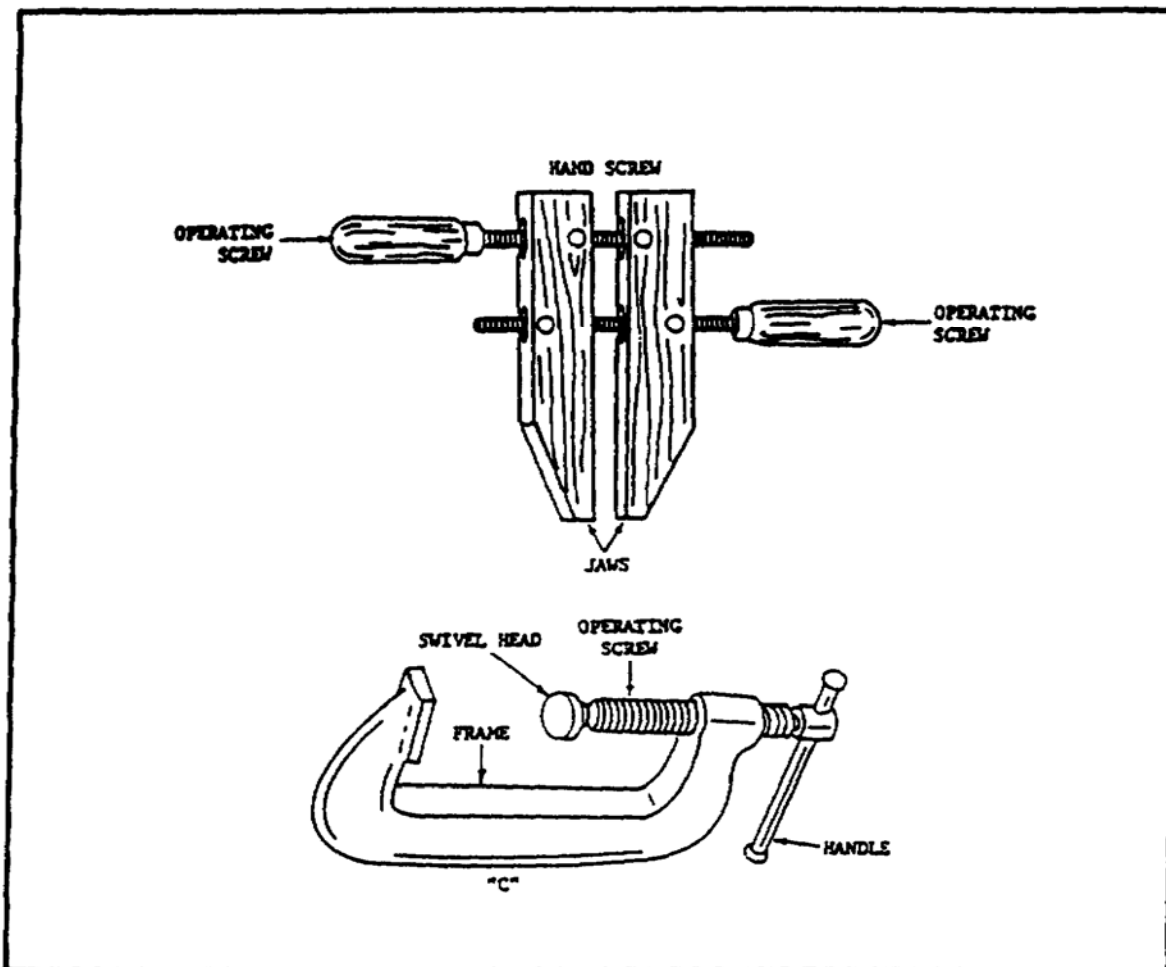

FIGURE 43. TYPES OF CLAMPS.
(1) *C-Clamps*. A C-clamp (figure 43) is shaped like the letter C. It consists of a steel frame threaded to receive an operating screw with a swivel head. They are made for light, medium, and heavy service in a variety of sizes.
(2) *Hand Screw Clamps*. A hand screw clamp (figure 43) consists of two hard maple jaws connected with two operating screws. Each jaw has two metal inserts into which the screws are threaded. These clamps are also issued in a variety of sizes.